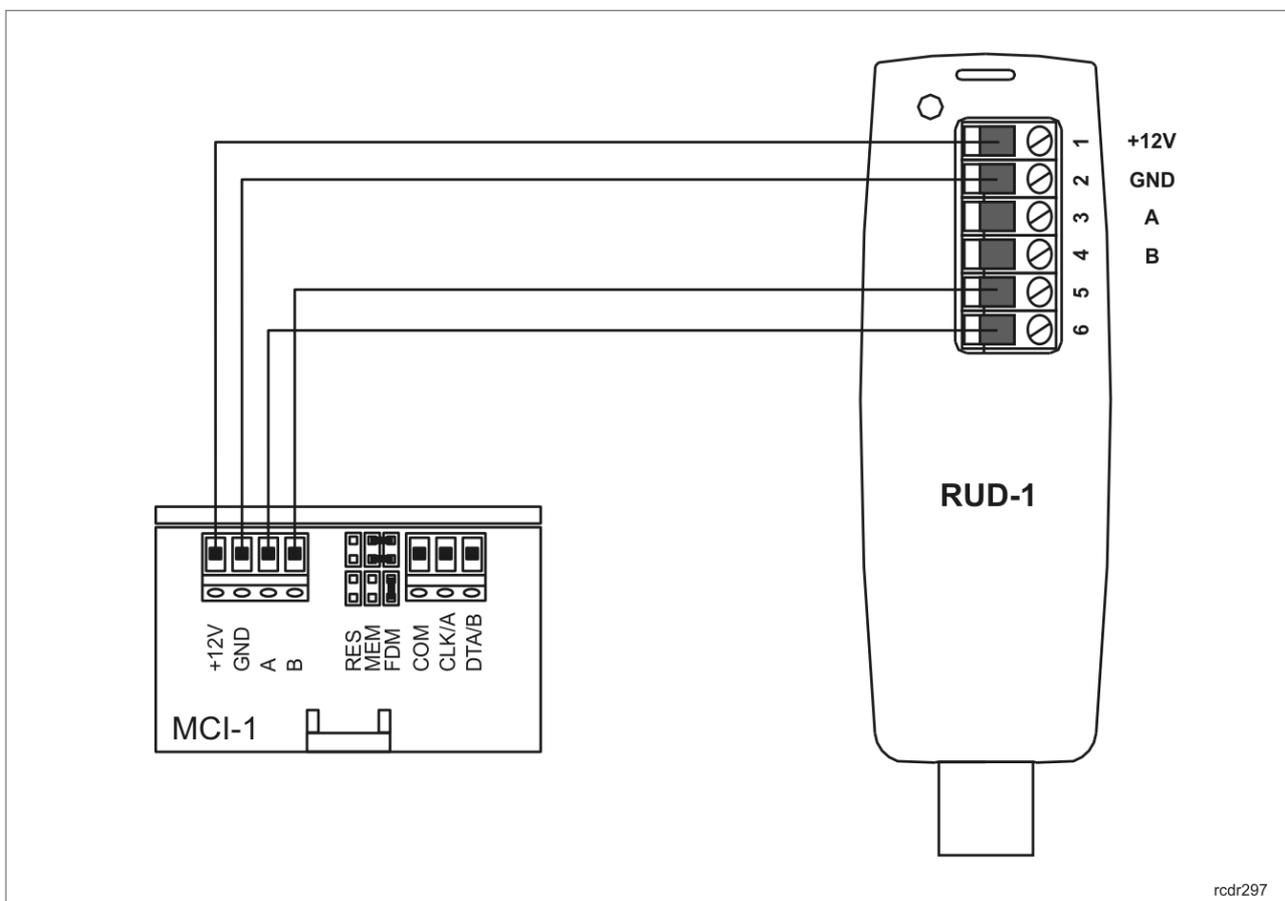

Fig. 6 Connection of MCI-1 to RUD-1 interface (firmware update)
- Make connections as in fig. 6